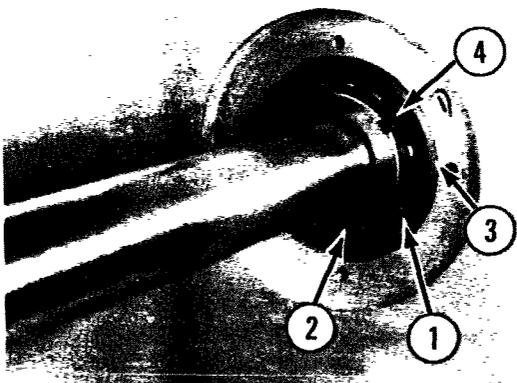
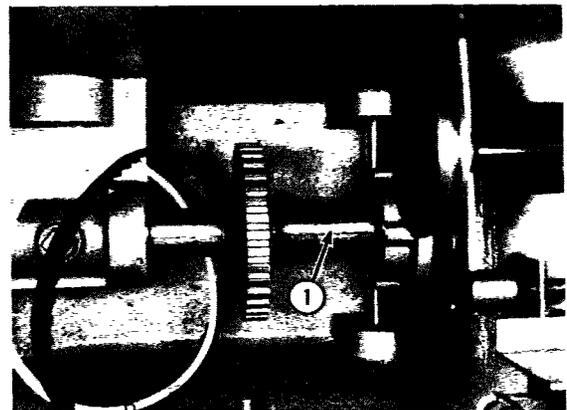

Fig. 2-19
Fig. 2-24
- (12) Remove lockwasher (1, Fig. 2-19) and locknut (2, Fig. 2-19).
- (14) Remove the bearing (3, Fig. 2-19) then slide the shaft through the bottom of the casing (Fig. 2-22).
- (3) Slip the belts over the shaft.
- (4) Install the knife shaft through the housing.
- (5) Install the bearing (3, Fig. 2-19), lockwasher (1, Fig. 2-19) and locknut (2, Fig. 2-19).
- (7) Tighten the locknut (2, Fig. 2-19) to (300 in./lbs.). Bend one of the locking washer tabs to hold the locknut (4, Fig. 2-19).
- (8) Install the end cap.
- (9) Install the key (1, Fig. 2-24). Push the knife shaft pulley against the shoulder on the shaft and tighten the set screws.
- (10) Install the round belt on the knife shaft pulley and the bowl drive pulley.
- (11) Install the motor and adjust the belt tension. (See the Section "Adjustments").
- (12) Install the bottom cover and leg assembly.
- (13) Install the attachment hub.